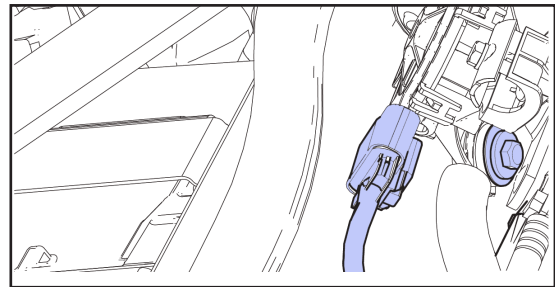

fig. 9b
- b. Disconnect wiper motor connector (fig.9b)